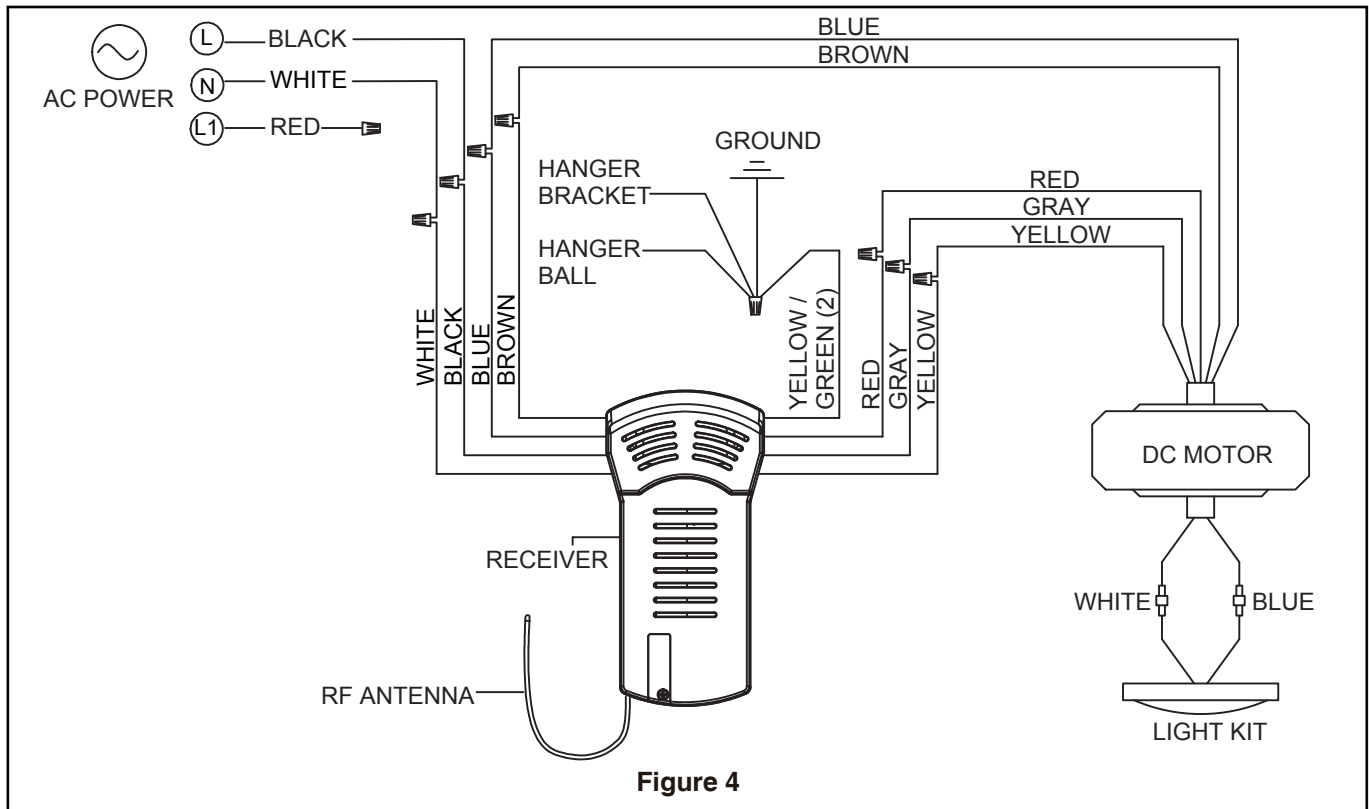

Figure 4
- 4. Slide downrod into the downrod support on top of the motor. Install the clevis pin by aligning the holes in the downrod support with holes in the downrod. Secure clevis pin with hairpin clip. Install the two set screws with nuts in the downrod support. Securely tighten the set screws with screwdriver then fully tighten the nuts using the hex wrench. (Figure 4)
4. Carefully lift the fan and seat the downrod/hanger ball assembly onto the hanger bracket that was just attached to the outlet box. Be sure the groove in the ball is lined up with tab on the hanger bracket. (Figure 4)
5. Attach the safety cable to ceiling support cable. Slide cable clamp and washer onto safety cable (from fan). Place the end of cable through the loop of ceiling support cable. Pull as much cable through loop as possible. Feed end of cable into clamp hole and firmly tighten screw. (Figure 4)
3. Connect wires using connectors as shown in Figure 4.
4. If installing the light kit, skip this step. Assemble the light kit wire cover to the light kit using the two key slots. Replace the removed screw and secure all three screws. (Figure 4)
- 4.** To make fan operational, install two 3V batteries (included) in hand-held remote transmitter, with fan power off. Then, follow the remote code setting process. If not used for long periods of time, remove battery to prevent damage to transmitter. Store the remote away from excessive heat or humidity. (Figure 4)